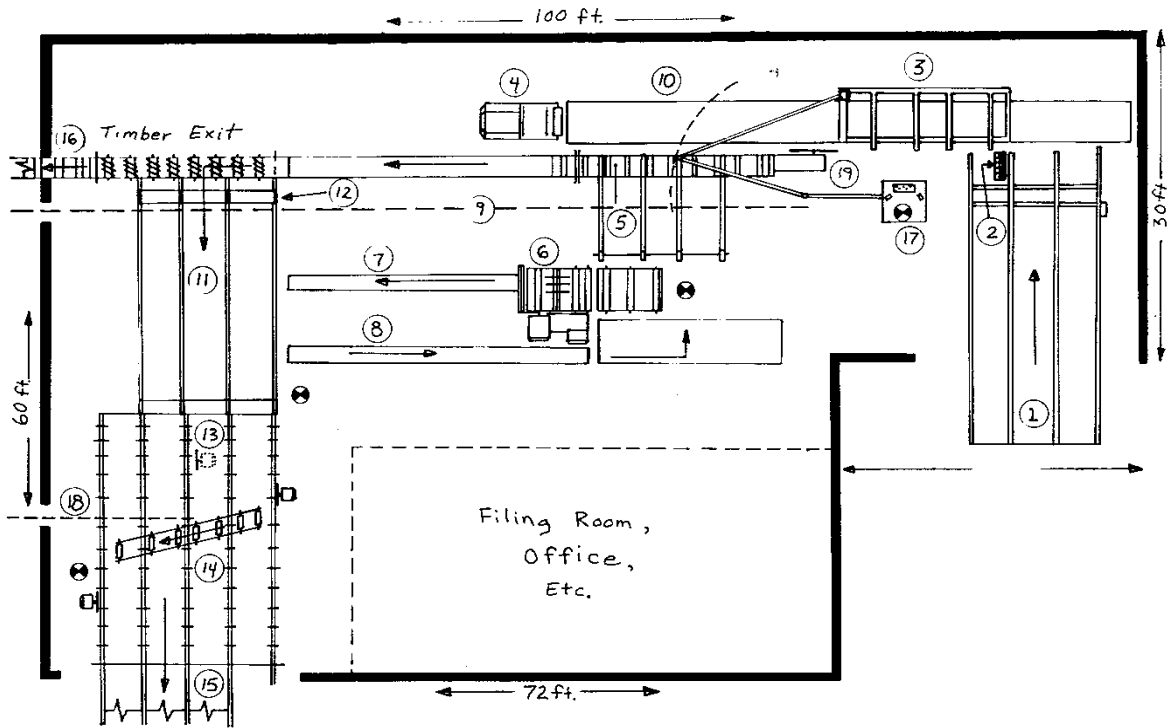

Figure 22 - Schematic of a modern circular sawmill
A sawmill consists of the following pieces of equipment which have been identified on a floor plan (see Figure 22). A log live deck (1) brings softwood or hardwood logs to the carriage (3). Logs are loaded onto a carriage (3), with the assistance of a log turner (2). Logs are held firm on the carriage by dogs (see Figure 23). The carriage and log pulled by a cable, runs on tracks (10), with the log encountering a circular headsaw (19) along its path.